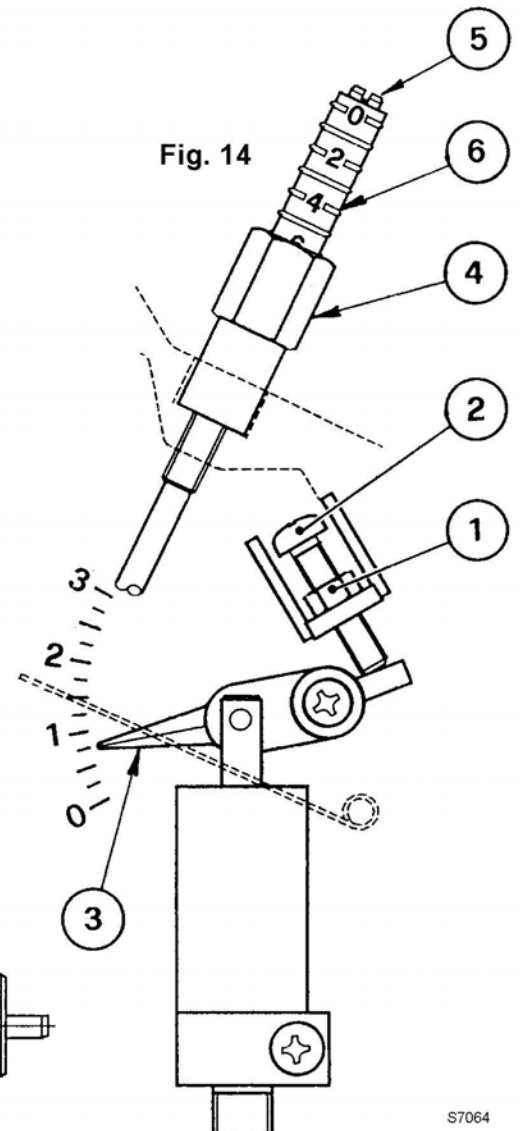

Fig. 14
Unloosen the nut (1), turn the screw (2) until the indicator (3) reaches the position desired. Then lock the nut (1), (see fig. 14).
Then lock the nut (4), (see fig. 14).